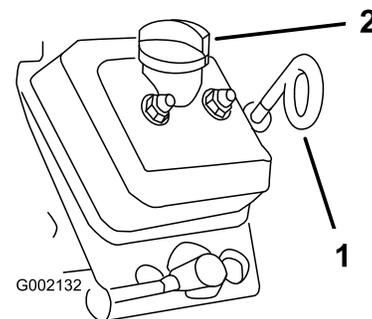

Figure 40
8. Clean around the oil dipstick, fill cap, and filler neck, and remove the dipstick (Figure 40).
9. Remove the fill cap and pour the specified oil into the into the filler neck until the oil level is up to the Full mark on the dipstick (Figure 40).
10. Insert the dip stick fully into the dipstick tube, remove the dipstick, and check the oil level (Figure 40).
11. Install the dipstick into the dipstick tube and the fill cap into the filler neck until the dipstick and cap are firmly in place (Figure 40).